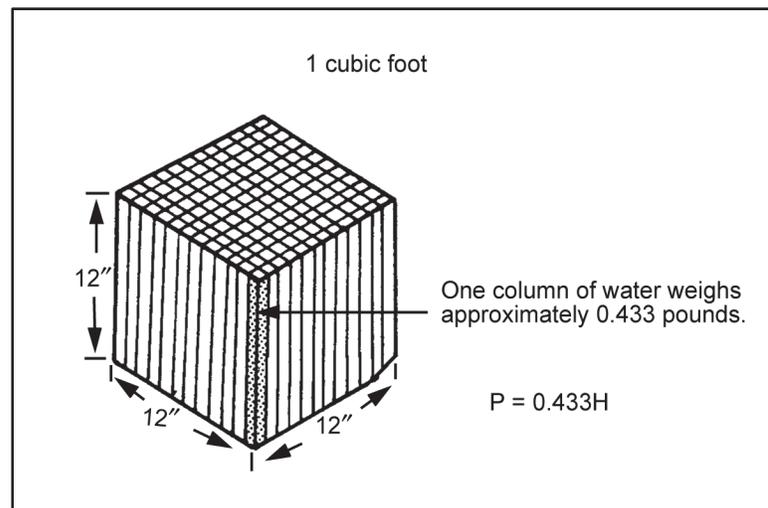

Figure E-1. Water pressure
E-2. Pressure (P) is an expression, in psi (lb/in²), of the total gravitational force (lb) exerted at the base of an imaginary 1-inch square (in²) column of water—thus psi—of any column height or head (H) in feet (figure E-1).